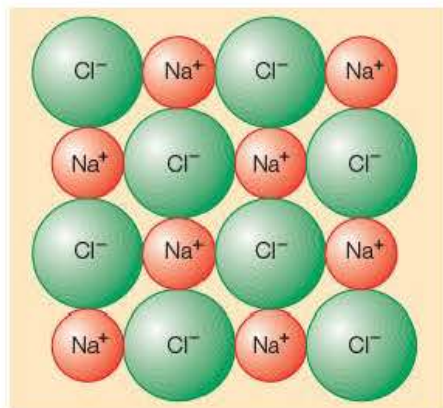
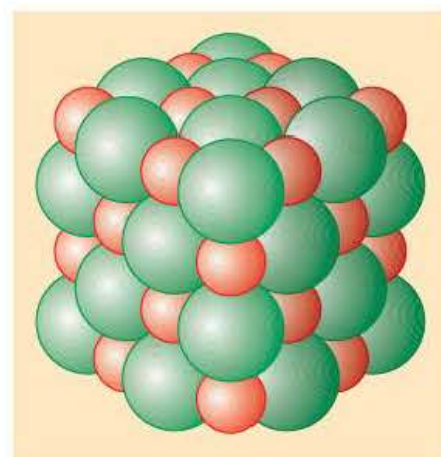

Figure 4.15 ▲
Figure 4.16 ▲
Figure 4.15 shows how the ions are arranged in one layer of sodium chloride (NaCl) and Figure 4.16 shows a three-dimensional model of its structure.
- 10 Look carefully at Figures 4.15 and 4.16.